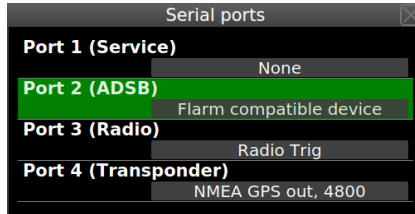

Figure 36: Serial port configuration window.
4. Select the *Serial ports* item. Figure 36 illustrates the window.
Configure the transponder RS-232 part to *NMEA* and set data rate to *4800*. Also, set Aetos port to *NMEA GPS out, 4800*, see Figure 36.